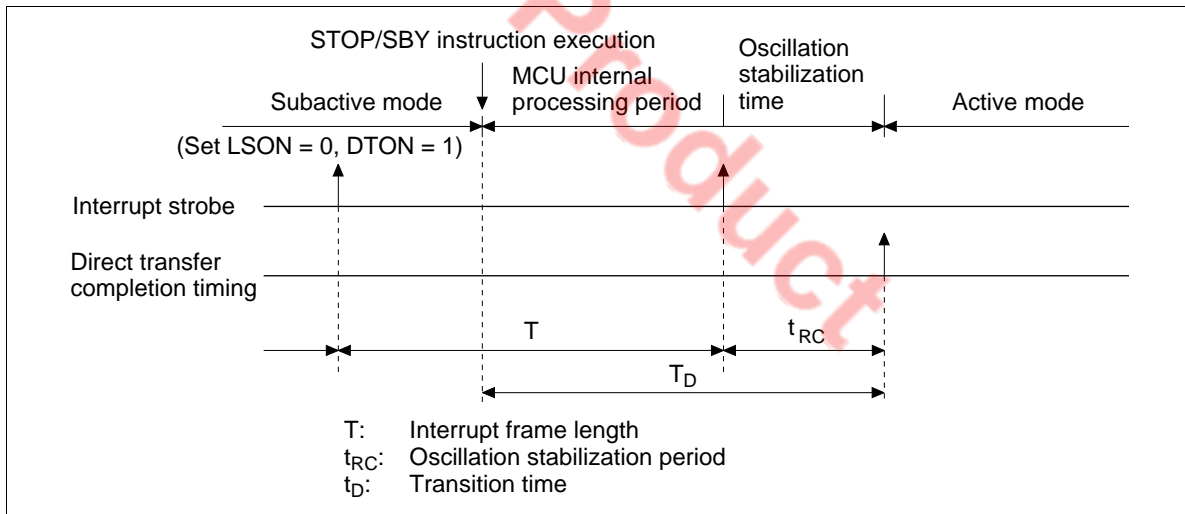

Figure 16 Direct Transition Timing
- The MCU automatically enters active mode from subactive mode after waiting for the MCU internal processing time and oscillation stabilization time (figure 16).